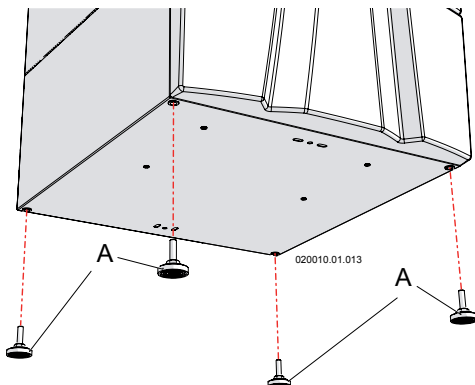

Figure 6-5 - Install leveling feet
- 6.- Install the leveling feet and plumb the unit accordingly (see Figure 6-5).